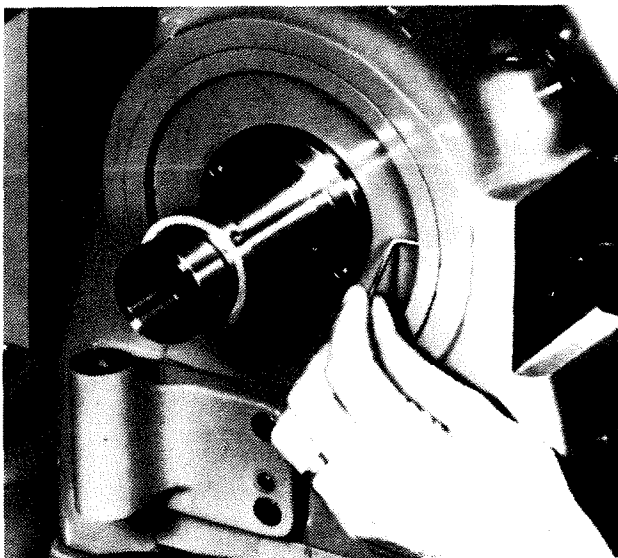

Figure 3.10 - Headstock Cover Removal
22. Remove the headstock cover by loosening two set screws, as shown in Figure 3.10 .
32. Install the headstock cover and tighten two set screws, as shown in Figure 3.10 .